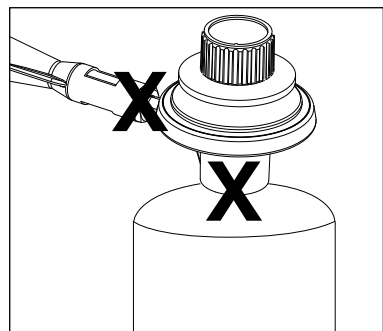

Figure 5
If your unit was assembled for you, visually check the connection between the burner and regulator/control knob (Figure 5).
3. Spoon the leak detection check solution on all “X” locations (Figure 5).